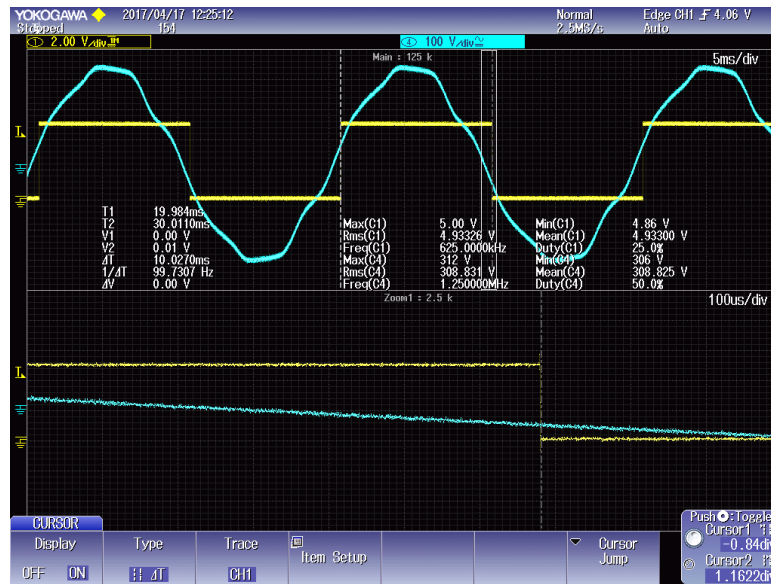

Figure 18: Input voltage (V_{in}) and (PWM2A) waveforms at $V_{in} = 100$ VAC
- A)** Remove the gate resistors (R30 and R3) as shown in Figure 18.